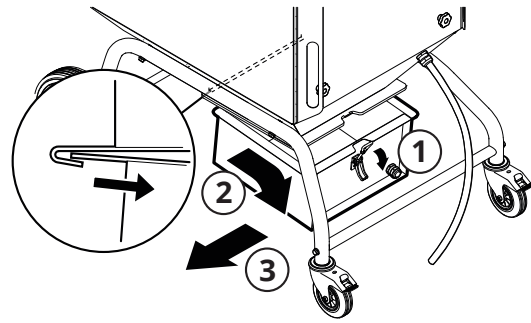

Fig. 27
3. Loosen the eccentric lock, raise the pallet truck up to the dust collector and use the pallet truck to pull out the collector. See **Fig. 27** as reference.
7. Slide the dust collector under the straining compartment, see **Fig. 27** as reference.